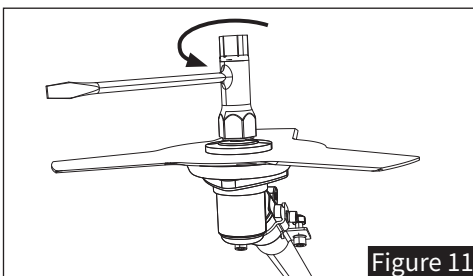

Figure 11
- Fit a socket wrench onto the nut and turn it counter-clockwise to loosen and remove the nut (see Figure 11).